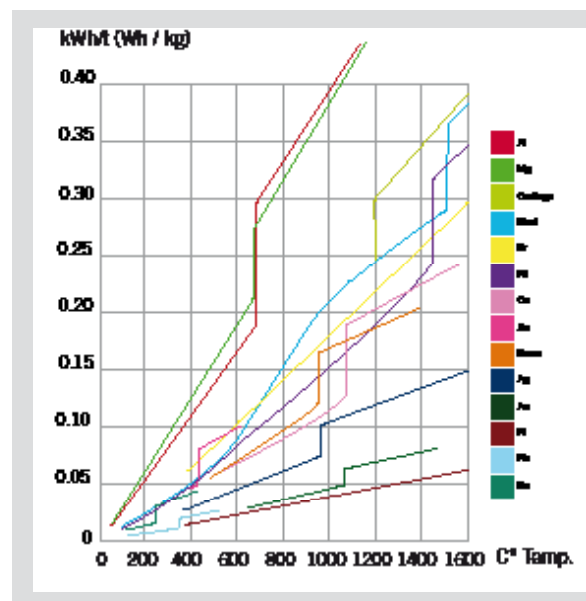

Fig. 4. Energy absorption rates for different materials
**Step 1** First determine the material's energy absorption rate. Fig. 4 shows rates for some common materials.